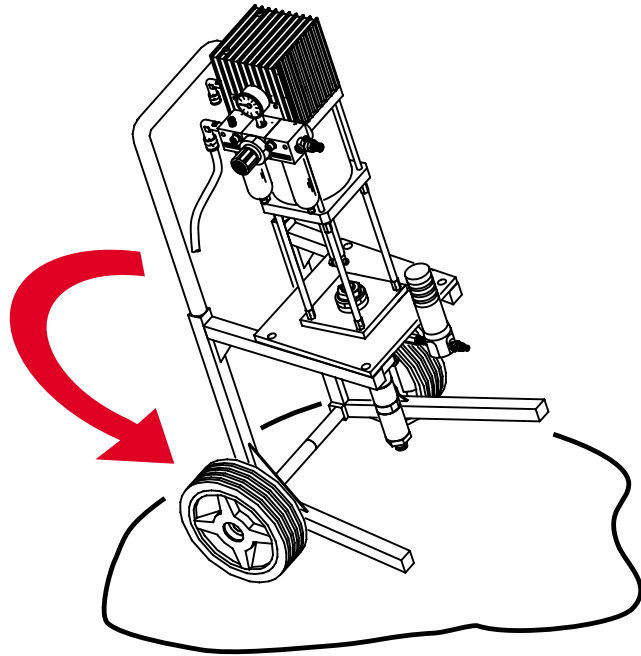

Fig.33
2) Check to make sure that the pump is in a stable position to avoid it falling (fig.33).